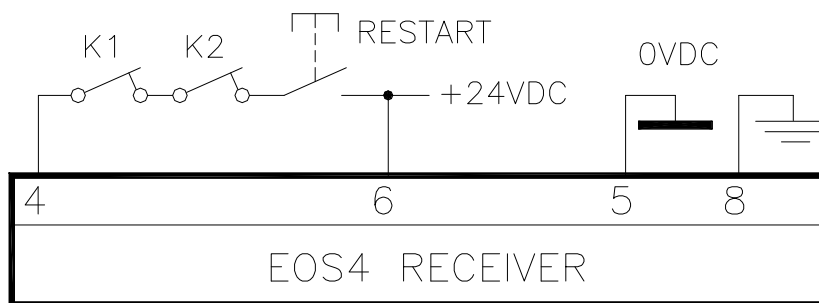

Figure 20 - Manual with K1K2 feedback
- ✦ In the case of manual operation, the RESTART button in series with the NC contacts (feedback) of the external contactors K1/K2 (Figure 20) must also be present.